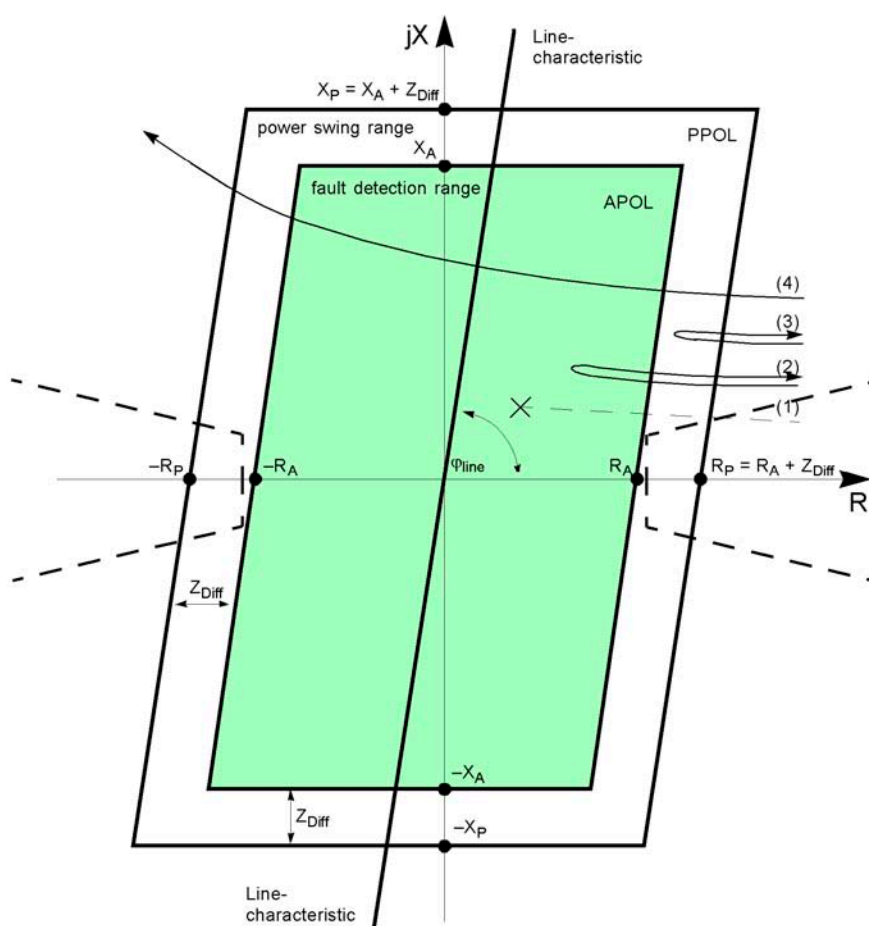

Figure 2-34 Pickup characteristic of the power swing detection for a polygon.
To detect a power swing, the rate of change of the impedance vectors is measured. The message is triggered when the impedance vector enters the power swing measuring range PPOL (refer to Figure 2-34) and the other criteria of power swing detection are met. The fault detection range APOL is made up of the largest set values for R and X of all the activated zones. The power swing zone has a minimum distance Z_{diff} of $5\ \Omega$ (at $I_N = 1\text{ A}$) or $1\ \Omega$ (at $I_N = 5\text{ A}$) in all directions from the fault detection zone. In the event of a short-circuit (1), the impedance vector abruptly changes from the load condition into this fault detection range. However, in the event of a power swing, the apparent impedance vector initially enters the power swing range PPOL and only later enters the fault detection range APOL (2). It is also possible that a power swing vector will enter the area of the power swing range and leave it again without coming into contact with the fault detection range (3). If the vector enters the power swing polygon and passes through it leaving on the opposite side, then the sections of the network seen from the relay location have lost synchronism (4): The power transfer is unstable.
When the impedance vectors identified by the power swing detection exit the power swing characteristic PPOL, the sign of the R components in the vectors are checked to see if they are the same on exiting and entering the pickup polygon. If this is the case, the power swing process is inclined to stabilize. Otherwise, the vector passed through the power swing characteristic (loss of synchronism, case (4) in Figure2-34). Stable power transmission is then no longer possible. The device outputs an alarm to that effect (FNo 4163 "P.Swing unstab."), provided that the parameter at address 2006 **PowerSwing trip** is set to **NO**. The alarm FNo 4163 "P.Swing unstab." is a pulse with a duration of approx. 50 ms, which can also be processed further via output relay, e.g. for a cycle counter or a pulse counter.